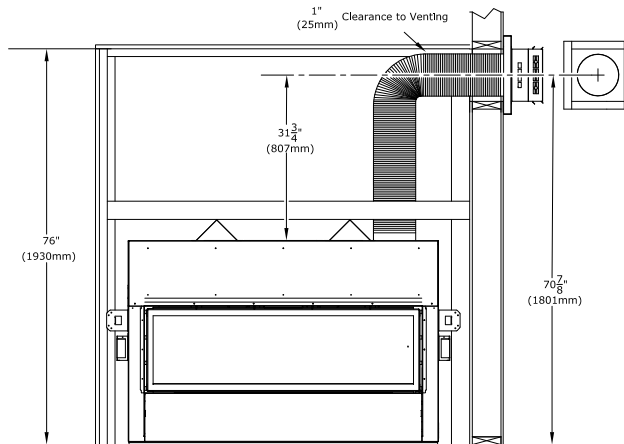

Figure 3.11 - Wall Thimble Framing
- The Kozy Heat #845-1 flexible venting pipe shown in the bottom image of Figure 3.11 is 31-3/4" (807mm) from the top of the unit to the center of the vent termination with a minimum bend radius 6" (152mm) to center. Maintain the clearance between venting and combustible ceiling in the fireplace enclosure as shown in Figure 3.11.
1. Measure from floor level of the fireplace to the center of where the vent pipe will penetrate the wall. The rigid pipe dimensions in Figure 3.11 is used with a Simpson DuraVent vent pipe.